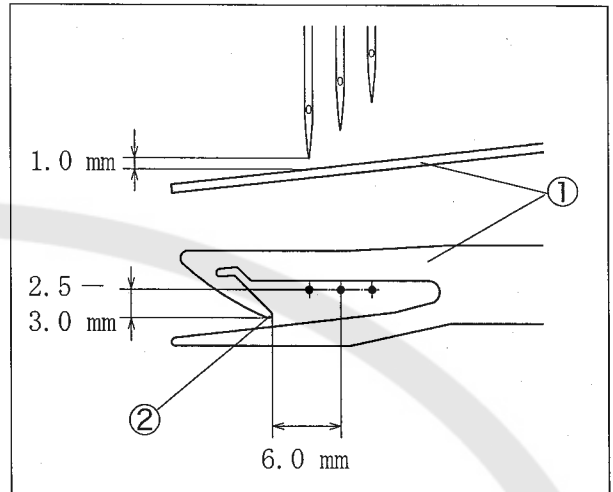

Fig. 29
- (1) Raise the needles at the heighest points.
- (2) Loosen the screw③ so that the hook② of the wiper① passes 2.5 - 3.0 mm from front of the center of the needle. (Figs. 29 and 30)
- (3) Loosen the screw④ to pass the wiper① 1.0 mm below the left needle. (Figs. 29 and 30)
Loosen the screw⑤ of the wiper holder to adjust it. (Figs. 29 and 30)